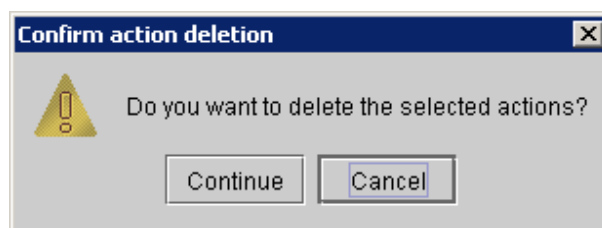

Figure 172 : Plugin deletion confirmation
- Click on the **Remove** button; the following action deletion confirmation message then appears (Figure 172):